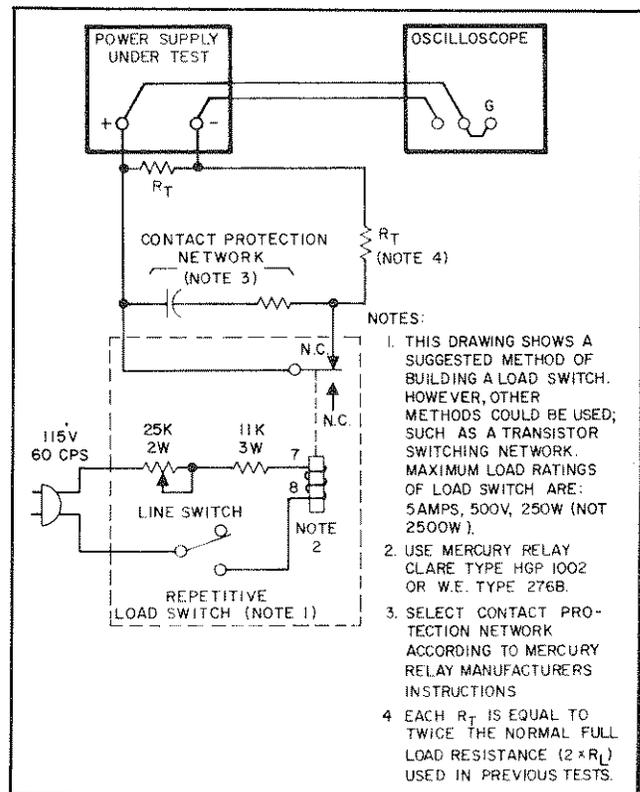

Figure 5-5. Load Transient Recovery Time, Test Setup
current changes are to be achieved. Instead, a mercury-wetted relay should be used for loading and unloading the supply. Connect it in the load switching circuit shown in Figure 5-5. When this load switch is connected to a 60 Hz ac input, the mercury-wetted relay will open and close 60 times per second. The 25K control adjusts the duty cycle of the load current switching to reduce jitter in the oscilloscope display. This relay may also be used with a 50 Hz ac input.
- a. Connect the test setup shown in Figure 5-5. Both load resistors (R_T) are twice the normal value of a full load resistance.